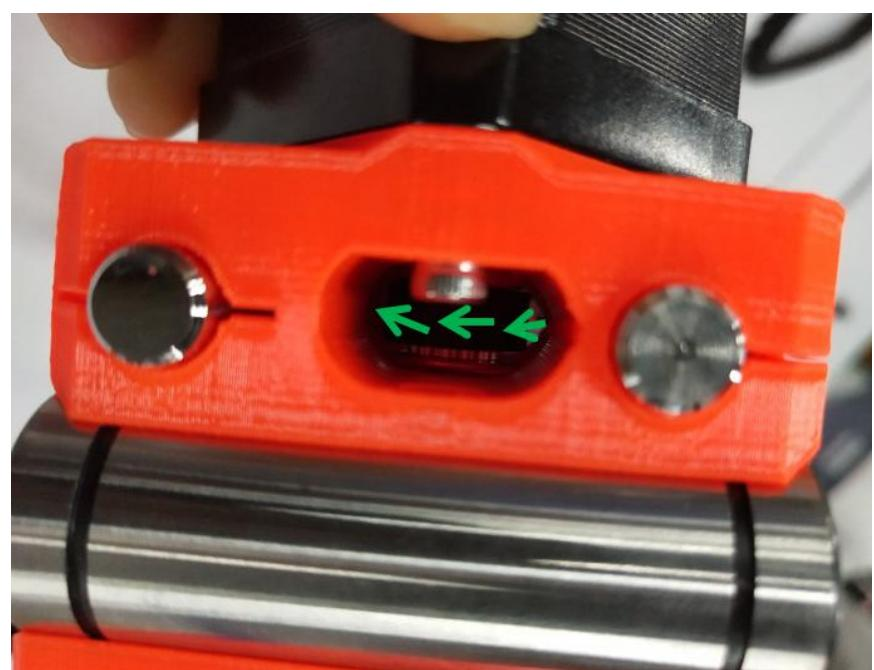

Figure 2.11.12
**Step 2-11-8:** As shown in Figure 2.11.12, continue to pass the belt through the synchronous wheel on the X-axis motor.